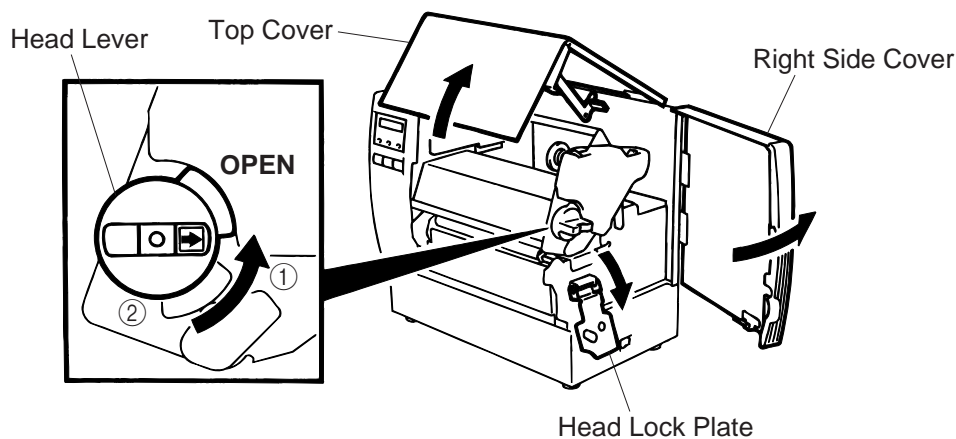

Fig. 7-1
9. Turn the head lever to the proper position depending on the used media. (Refer to Fig. 7-1)
- ①: Labels or thin tag paper
- ②: Thick tag paper